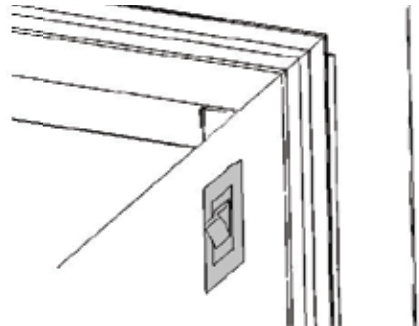

Fig. 4
- The light inside the Beverage Centre can be turned On and Off using the light switch found on the right-hand side internal wall of the chiller. Fig. 4